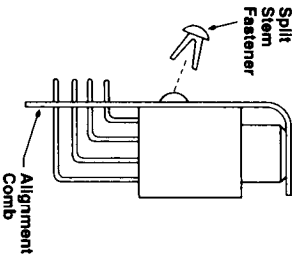

Figure 1
1. Remove split stem fasteners which hold alignment comb in position on connector (Ref. Figure 1) and manually maintain comb position until connector contact tails protrude through the printed circuit board holes. The alignment comb will assure proper contact alignment to printed circuit board during installation.